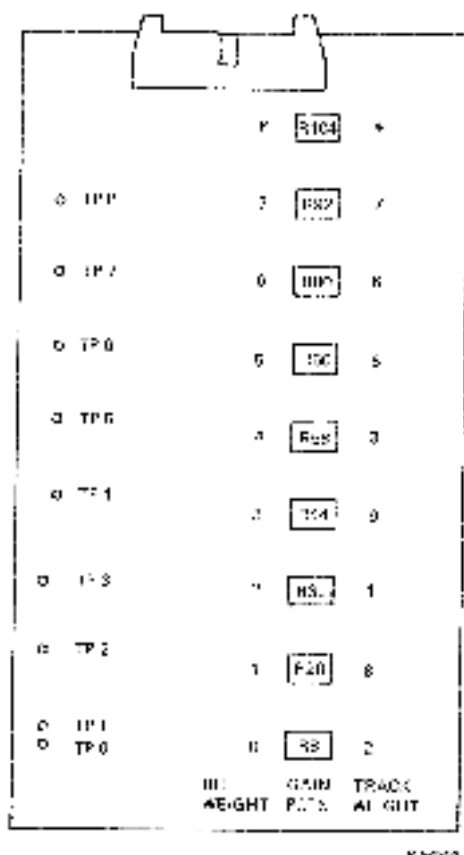
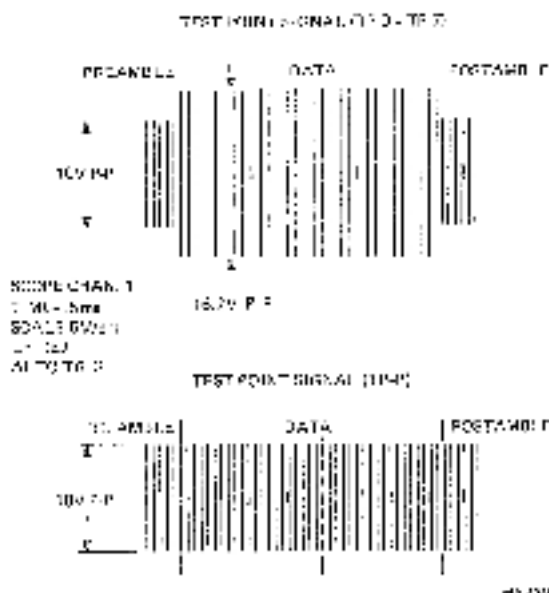

Figure 5-5 Read Preamp Locator
Figure 5.6 Road Presence Adjustment
1. Remove the preamplifier board shield and attach a scope probe to TP0 (Figure 5-5).
2. Adjust the hit weight range gain pot (Figure 5-5) for $10\text{ V}_{\text{p-p}} \pm .25\text{ V}$ in the preamble portion of the analog signal on the scope (Figure 5-6).
3. Move the scope probe to the remaining test points and adjust the corresponding gain pots, including test point TP7 (Figure 5-6).
4. Ensure the data portion of signals TP0 through TP7 does not exceed $16.7\text{ V}_{\text{p-p}}$ (Figure 5-6).